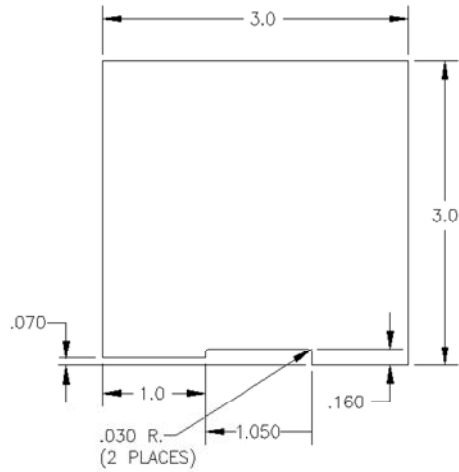

Figure 6 – Moisture Seal Forming Tool
- (2) Masking Tape
- (3) Methyl Ethyl Ketone
- (4) Felt Block
- (5) Pumice or Cerium Oxide
- (6) De-ionized Water
- (7) Isopropyl Alcohol
- (8) Cotton Cloths
- (9) Paper Wipes - Scratch-Free, such as Kaydry®
- (10) PR-1425
- (11) PR-142 Primer
- (12) Moisture seal forming tool (See Figure 6)
- (13) Rubber gloves (powder free/undusted)
- (14) Gauze pads
- (15) Cellulose sponge
- (16) Conductive copper tape, 1/8 to 1/4 inch wide.
- (5) Using a cartridge dispenser or a plastic spatula, apply the PR-1425 to the cleaned and primed surfaces.
- (6) Form the outboard moisture seal by pulling the moisture seal forming tool around the window. Allow the moisture seal tool to rest on the masking tape on both sides of the moisture seal area. (See Figure 6)